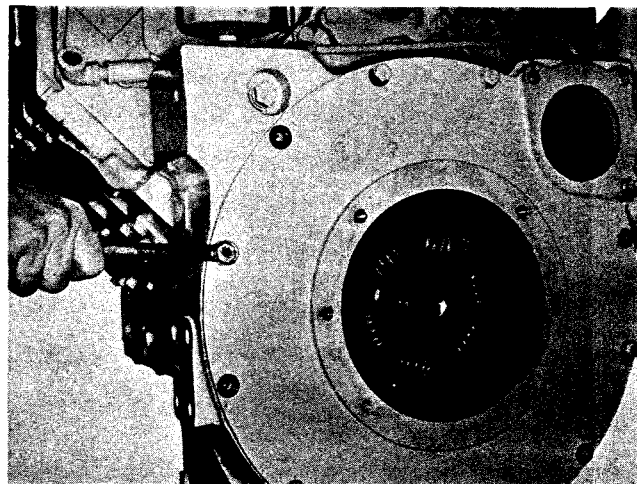

Fig. 5-7, (V10059). Removing adapter plate
5. Remove capscrews and lockwashers securing adapter plate to flywheel housing. Fig. 5-7. Lift off adapter plate.